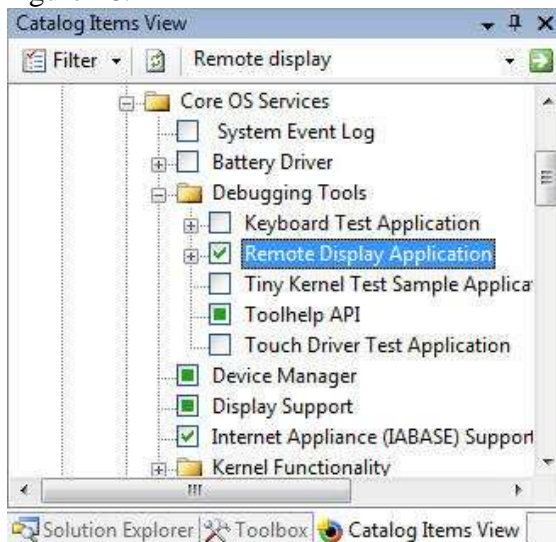

Fig. 16 - Locate component using the search feature
- The search engine locates and highlights the Remote Display Application, as shown in Figure 16.